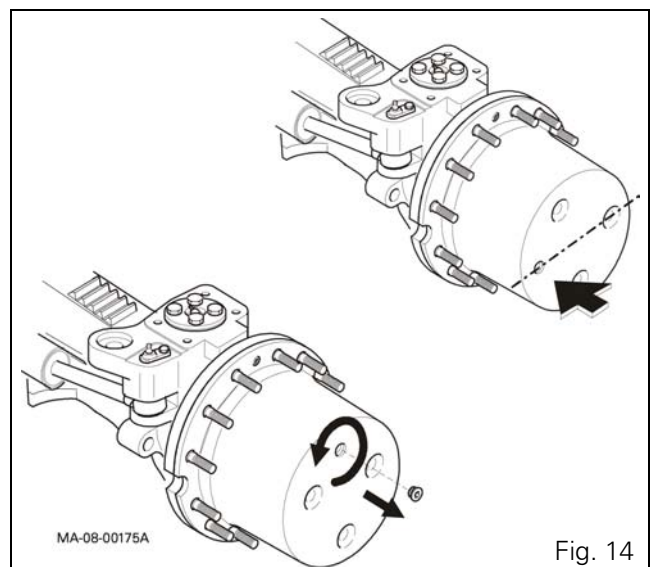

Fig. 14
3. Before draining or topping up the oil in the final drive units, turn the wheel hub so that the filler port (Fig. 14) is at its highest point, then loosen the relevant plug to release any internal residual pressure (Fig. 14).